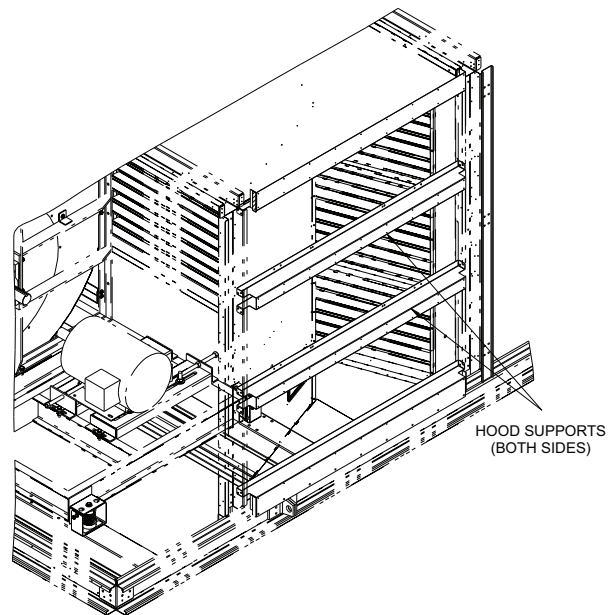

Fig. 24 — Hood Supports
- b. Remove the hood supports (quantity 2 or 3) (see Fig. 24).
- d. Reinstall hood supports (Fig. 24).